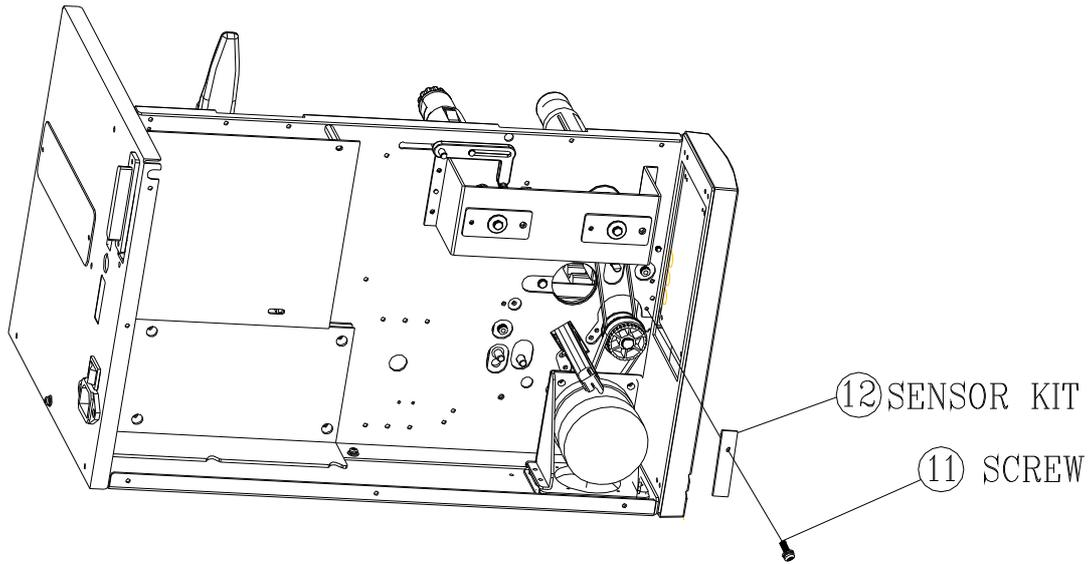
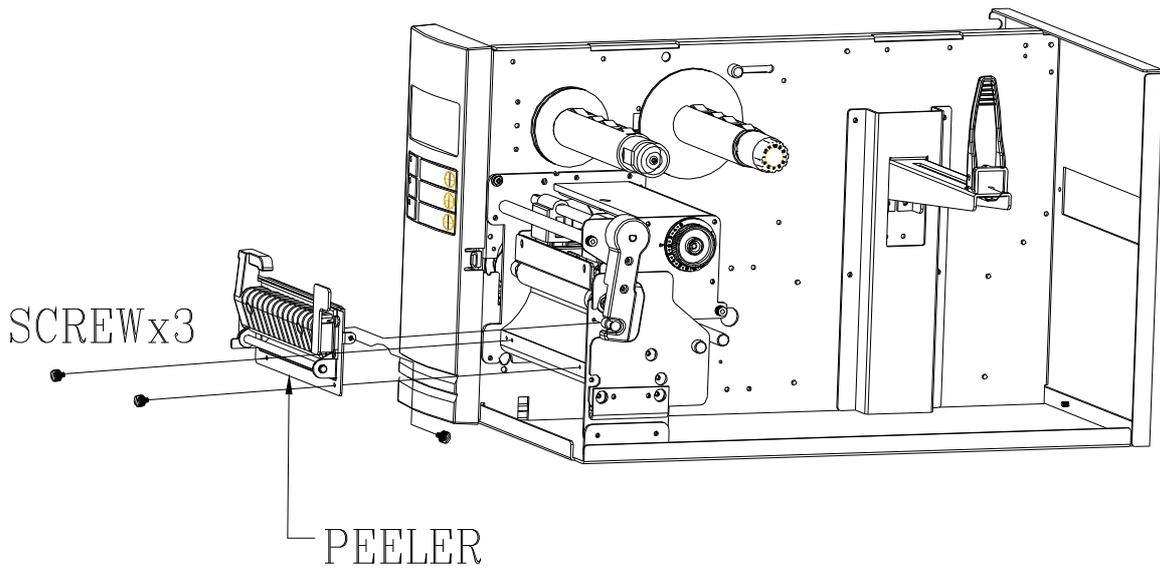

Figure 7.5-1
Figure 7.5-2
4. Connect the dispenser sensor assembly (11) to JP12 (PEELER) on main board and secure the dispenser board in front of TPH module. Refer to the Figure 7.5-1. Then secure three screws to the TPH module (Figure 7.5-2).